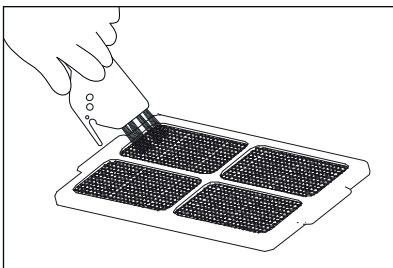

Fig. 11
- 5) Clean the sieve filter with the cleaning brush **10** (see Fig. 11).